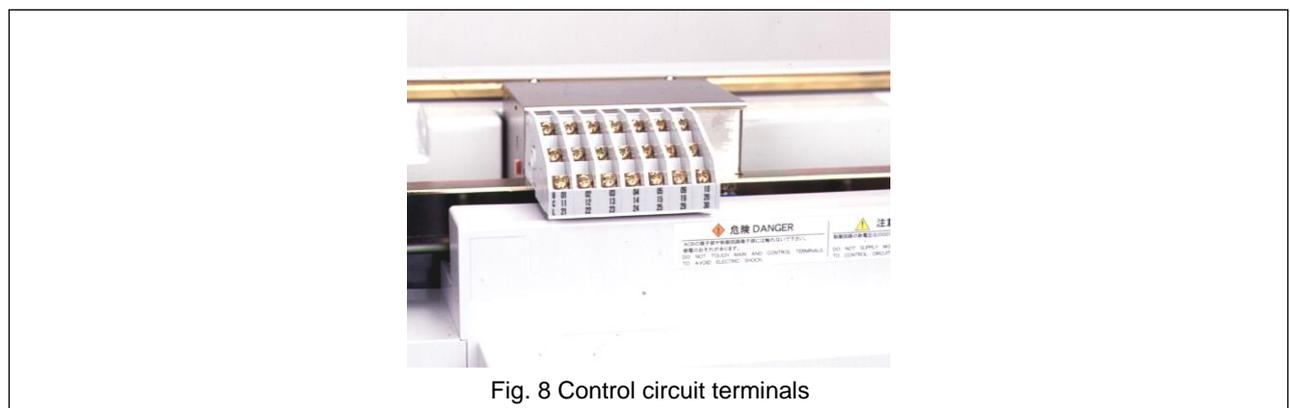

Fig. 8 Control circuit terminals
⑤ ( Charge indicator	Shows “CHARGED” when the closing springs are charged and “DISCHARGED” when it is released.
⑥ ( Charging handle	Pump to charge the closing springs.
⑦ ( Lock-in-OFF plate (optional)	Padlocking this plate allows the ACB to be locked in the open (OFF) state. (Padlocks are not supplied. Use padlocks with a 6 mm-diameter shackle.)
⑧ ( ON-OFF button cover	Provides protection against inadvertent button operation and can be padlocked. (Padlocks are not supplied. Use padlocks with a 6 mm-diameter shackle.) Up to three padlocks can be installed.
⑨ ( ON-OFF cycle counter (optional)	Reads the number of ON-OFF cycles. It counts a series of operations from close to open as one cycle.
⑩ ( OCR cover	Padlocking this plate prevents settings of overcurrent release ⑪ to be inadvertently changed. (Padlocks are not supplied. Use padlocks with a 6 mm-diameter shackle.)
⑪ ( Overcurrent release (OCR)	This protective device is supplied power via the power CT installed in the ACB main circuit. When the current sensor detects an overcurrent in the main circuit, the OCR instructs the magnet hold trigger (MHT) to trip open the ACB.
⑫ ( Front cover	A plastic cover of the breaker body front panel.
⑬ ( Rating nameplate	Indicates the type, applicable standards and rated breaking capacity of the ACB.
⑭ ( Specification nameplate	Indicates the number of poles, operation method, accessories, and serial number of the ACB.
⑮ ( Control circuit terminals	Allow connections of external control wire to the control circuits. Wire connections are made through M4 screw terminals. Fig. 8 shows the control circuit terminals.